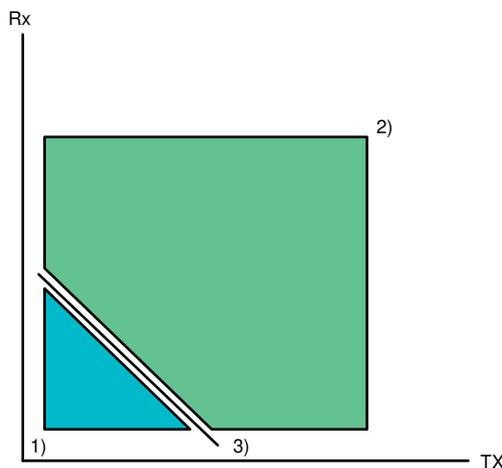

Figure 2-3. Tuning Algorithm Search Points
- Location of Read Delay Boundary – The tuning algorithm executes a binary search along the line between points 2 and 3, which is shown in Figure 2-3 as an arrow.